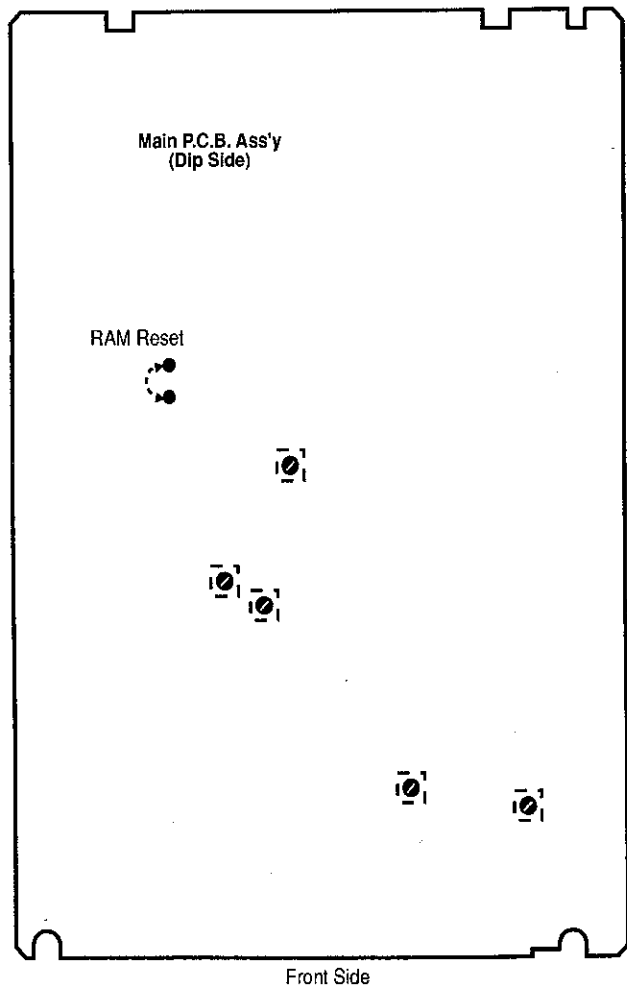

Fig. 1.3 Stocker Operation Check
- (1) Remove the Bonnet (Upper).
- (2) Turn ON the power.
- (3) Short the RAM Reset lands. See Fig. 1.3.
- (4) The stocker raises to the uppermost position, and then starts a series of CD unload operation as follows: